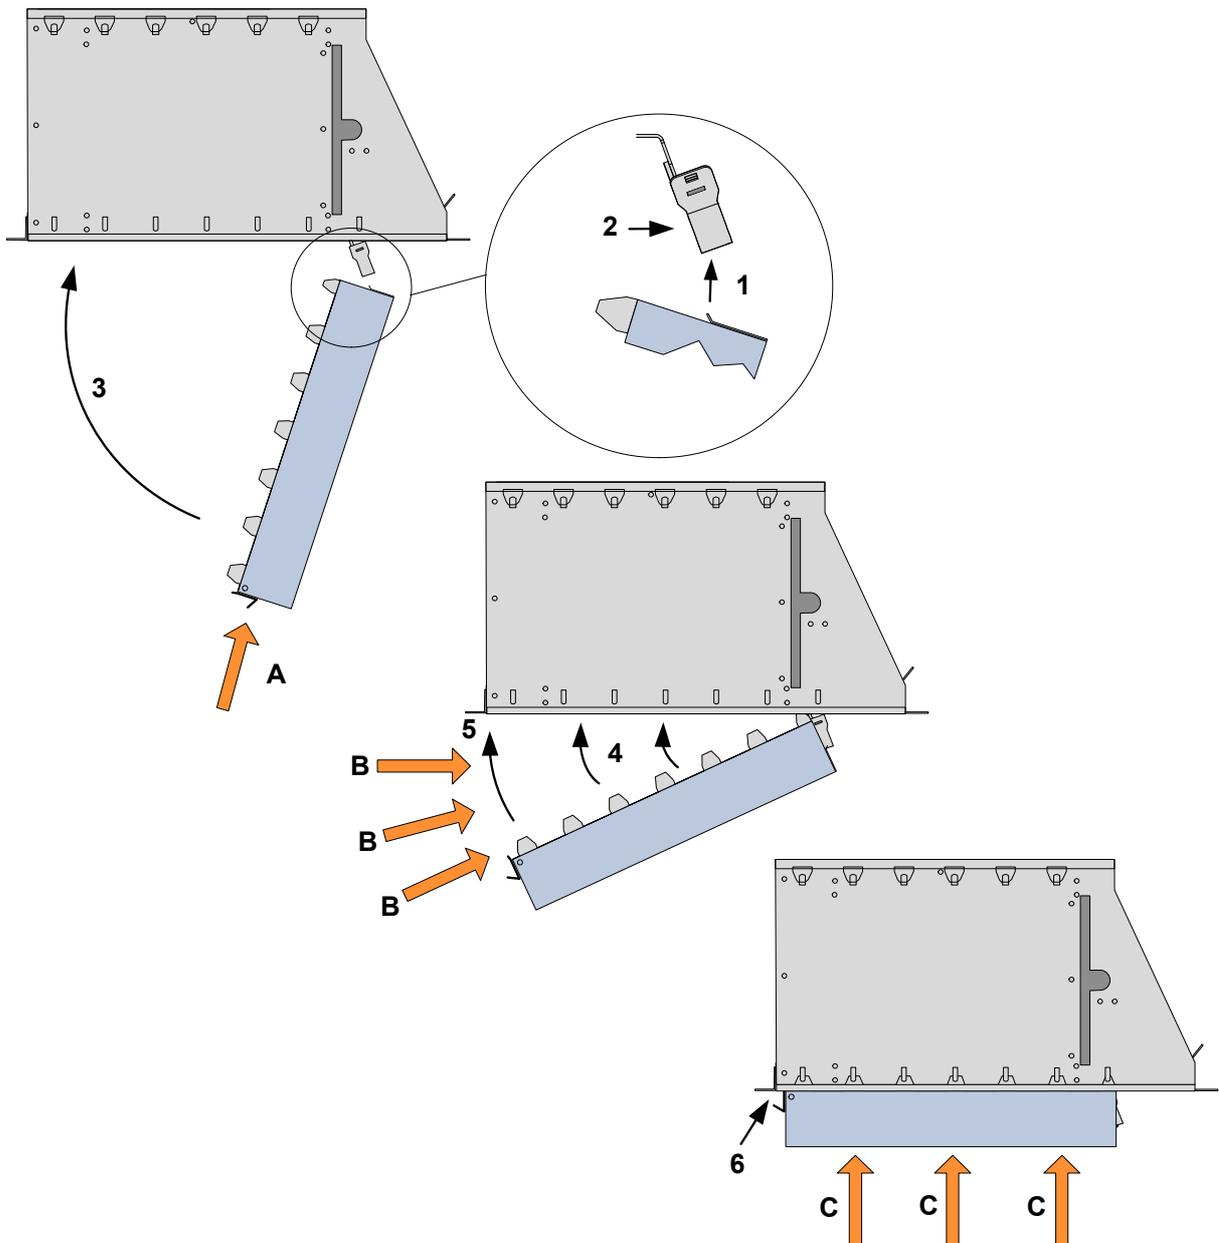

Figure 55: Installing the front cover to the subrack
1. Move the front cover close to the subrack and rotate it outwards (with respect to the subrack) as shown in Figure 55.
2. Hinge the right lids (1) of the front cover into the slots of the earthing bar (2) and press (A) it firmly into the slots.
3. Rotate the front cover inwards to the front of the subrack (3) while applying a constant force (B) in the direction of the earthing bar.
4. Align the upper and lower lids (4) of the front cover to the slotted rails of the FOX612 subrack.
5. Align the left hand lock of the front cover to the slotted rail at the left edge of the subrack (5).
6. Close the cover firmly (C). Listen for the click of the left hand lock (6).